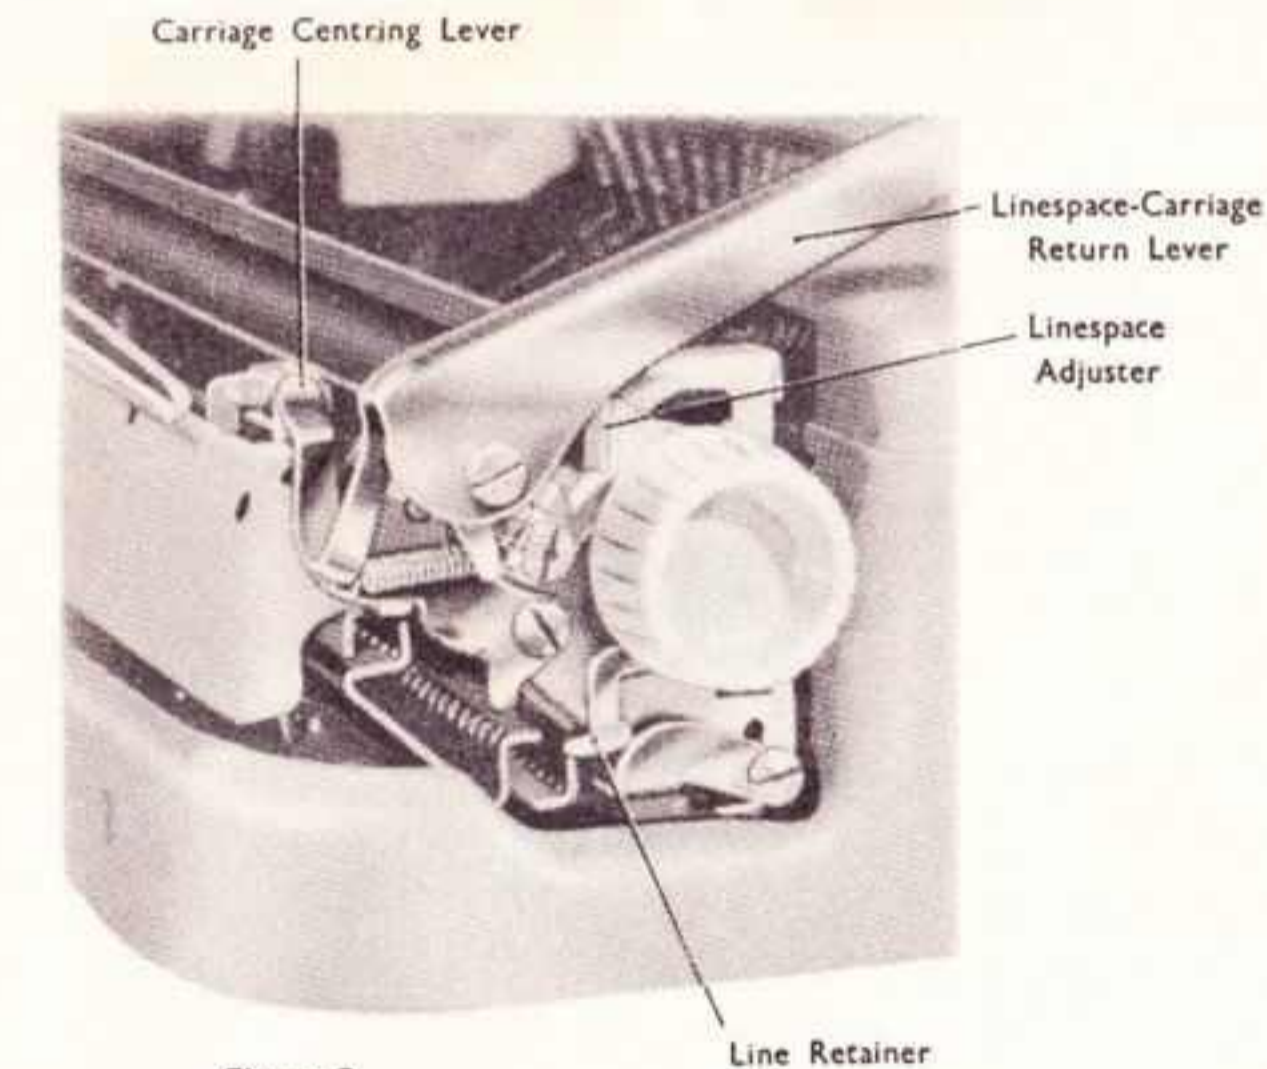

Figure 2
Replacing Machine in Case. When you are not using your **PORTABLE** put it back in the carrying case to protect it from dust and dirt. To do this: (1) see that the carriage is down in the small-letter position (not the capital position) and that the paper bail and paper support arms are down; (2) centre the carriage by moving it to the left and then holding the centring lever (Fig. 2) back and down while pushing the carriage to the right as far as the centring lever permits. Now place the machine in its case, close the cover, and pull both zipper-tabs around to the front of the machine, thus closing the case.
13. **Linespace-Carriage Return Lever.** After finishing a line, a stroke on the linespace-carriage return lever not only returns the carriage to the starting point but spaces the paper up for the next line. If you want your typing two lines apart, just move the linespace adjuster (Fig. 2) forward to the double spacing position.
Line Retainer (Fig. 2). When you wish to vary line spacing for filling printed forms, or for typing subscripts or exponents, raise line retainer up, and space paper by turning platen knobs. When ready to return to original line-spacing, press retainer down again.